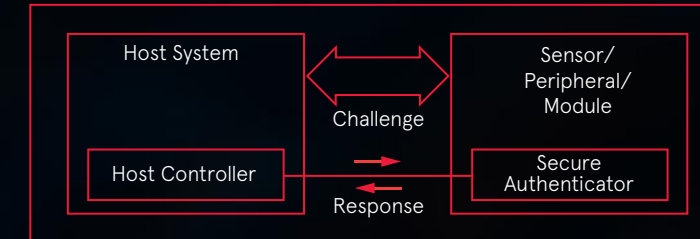

Figure 5 - Testing for authenticity with a challenge-and-response sequence.
- Supply chain security includes broad topics. See Figure 5.